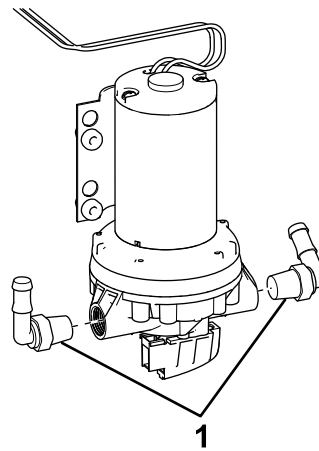

Figure 26
5. Install a 90° hose fitting onto both sides of the pump (Figure 26).